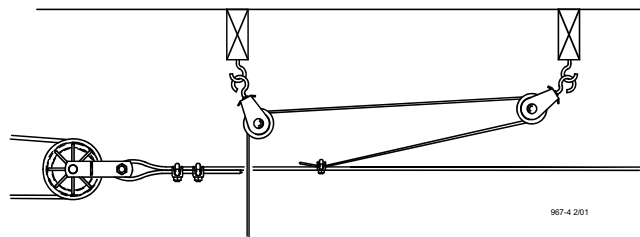

**Figure 17. Pulley Installation**
- After securing the Ceiling Hook to the truss, slide the hook of a Swivel Pulley into the slot, as shown in **Figure 17**.